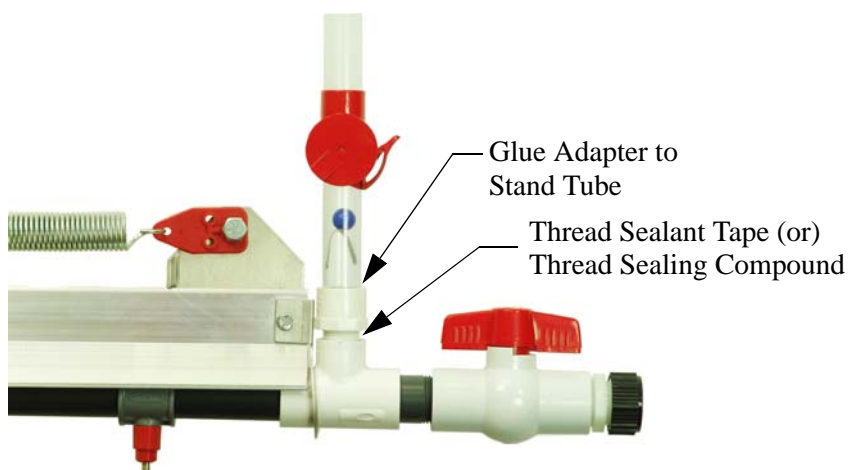

Figure 5. At Endline Installation
2. Thread the new stand tube assembly in place of the barbed fitting. (see figure 5.) Turn assembly to the desired position but do not overtighten.